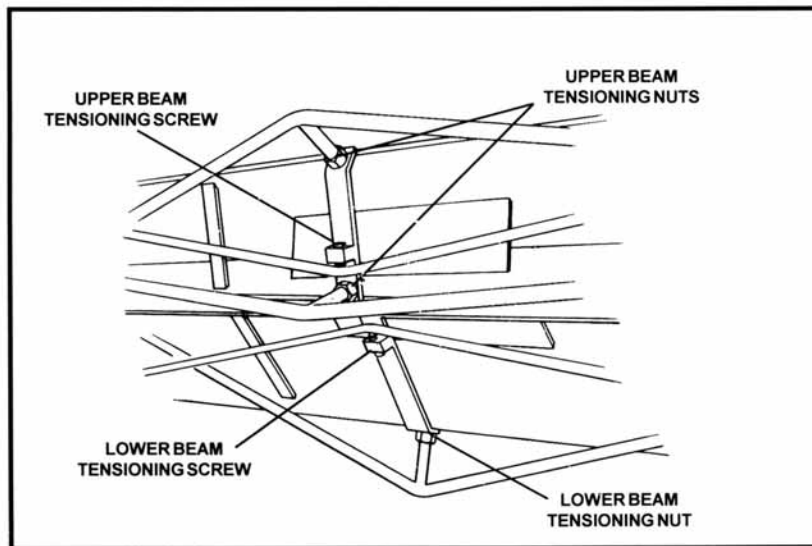
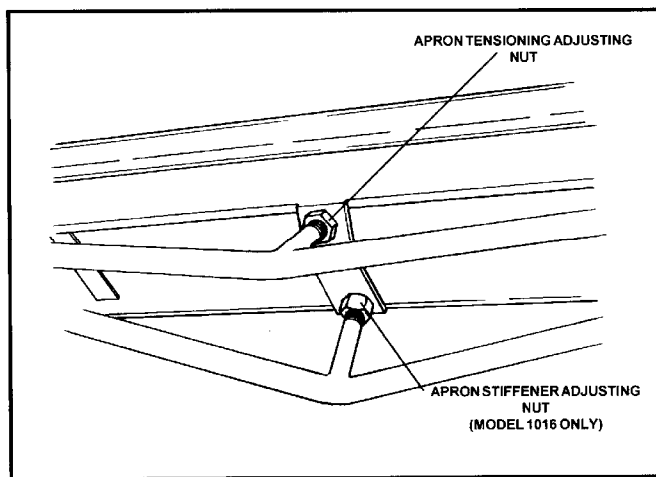

Figure 9. Upper Beam and Bed Tensioning Components
Figure 12. Preloading Adjusting Components
This approach may require additional preloading in order to close the hem tightly at the center. Increase the preload by tightening the upper beam tensioning adjusting nut (see Figure 9).
1. Relieve all tension on the upper beam tensioning nuts and on the upper beam tensioning screw (see Figure 9).
3. Adjust the upper beam and lower beam tensioning screws finger tight; and then tighten each with a wrench approximately one full turn (five flats) (see Figure 9).
4. Adjust the upper beam tensioning nuts finger tight, and then tighten each with a wrench approximately one full turn (five flats) (see Figure 9).
1. Loosen the apron tensioning nuts on the apron, (see Figure 12) and the upper and lower beam tensioning nuts (see Figure 9). **On the Model 1016 brake** also loosen the apron stiffener adjusting nut located behind the lower apron tensioning adjusting nut (see Figure 12).
2. Loosen the upper and lower beam tensioning screws (see Figure 9).
5. Tighten the apron stiffener adjusting nut until the apron edge is 1/32-in. above the bed edge at the center (see Figure 12). The apron edge should remain 1/64-in. below the bed edge at both ends.
7. Tighten lower beam tensioning nut until the edge of the bed is 1/64" above the top edge of the apron at the center (see Figure 9). The edges of the bed and apron will then be parallel from end to end, with the edge of the bed 1/64" higher than the apron edge. **On the Model 1016 brake** tighten the apron stiffener strap bolt located behind the lower apron tensioning nut until the horizontal gap between the bed and apron is slightly greater in the center than at the ends (see Figure 12). It may then be necessary to back off the lower apron tensioning nut slightly to maintain the bed 1/64-in. higher than the edge of the apron.